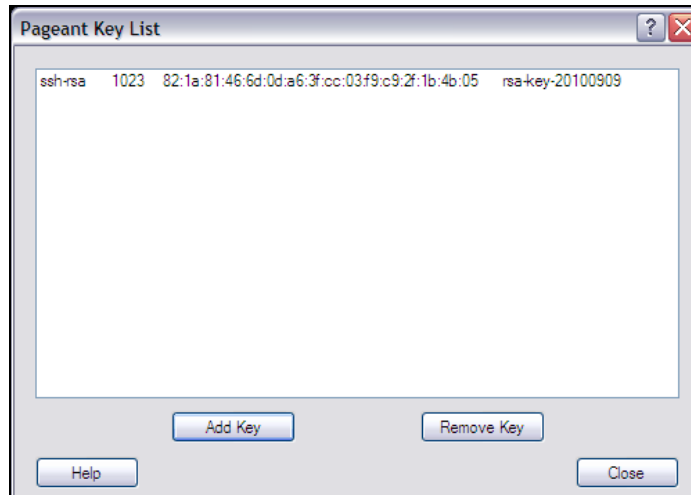

Figure 9-14 Pageant example
**Note:** The **pscp** command will not work if you have not uploaded your PuTTY SSH private key or if you are not using the user ID and password with the PuTTY **pageant** agent, as shown in Figure 9-14 on page 307.